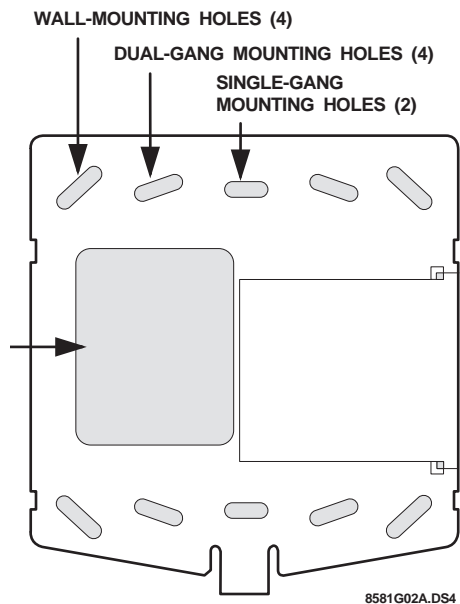

Figure 2. Marking the Mounting Holes
2. Place the mounting plate on the wall and mark the four mounting holes (see Figure 2). Be sure to leave a 4¼ inch clearance on the left side to allow for the Quick Guide slide-out card.